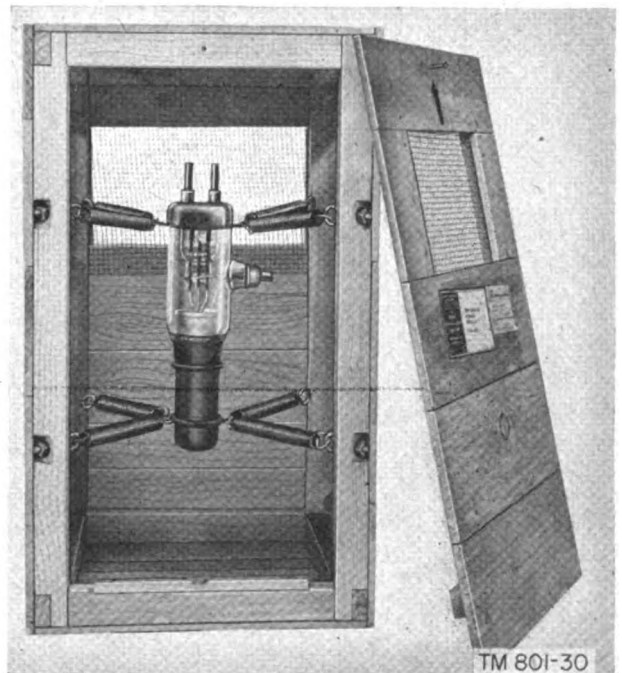

Figure 16. Amplifier Tube JAN-129B in shipping container.
- (1) Unscrew the single screw indicated by the black arrow (fig. 16) of the *bird cage* type tube crate.
- (2) Remove the front panel by lifting it slightly.
- (3) With a pair of diagonal cutters, carefully clip the iron wire which holds the tubes.
- (4) Grasp tube with one hand.
- (5) Disengage the lower portion of the tube from the spring-supported ring.
- (6) Move the tube downward and slide it out of upper ring.